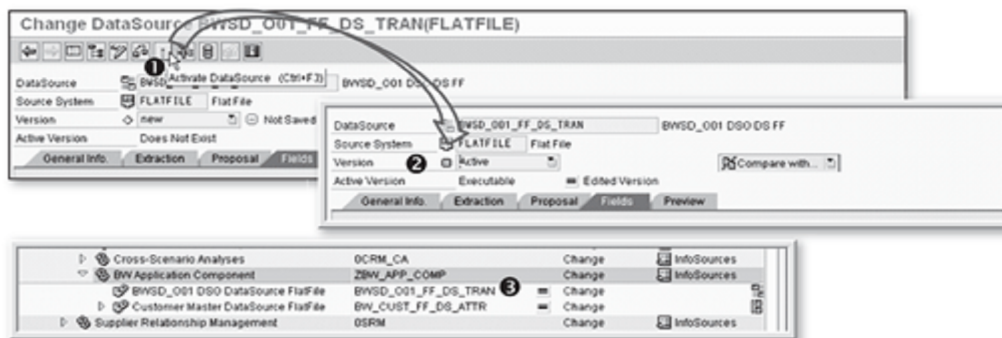

Figure 7.53 Activating DataSource
After this is completed, you can activate the DataSource by clicking the Activate icon (❶ of Figure 7.53). The activated DataSource (BWSD_O01_FF_DS_TRAN) is now available under the application component ZBW_APP_COMP (❸).